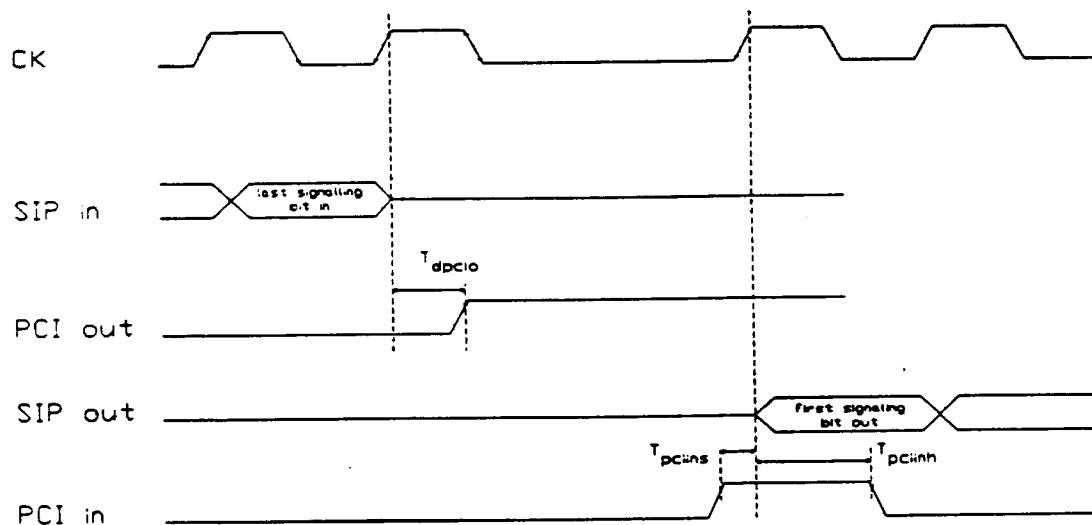

Figure 7.3:
7.5.1. PCI TIMING DIAGRAM (FIG 7.3)